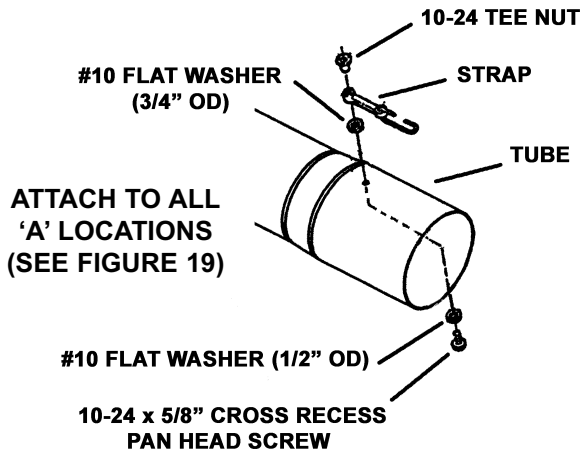
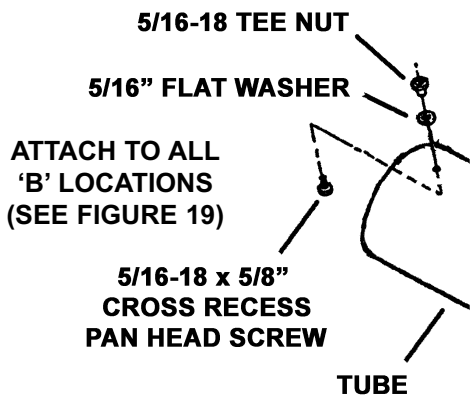
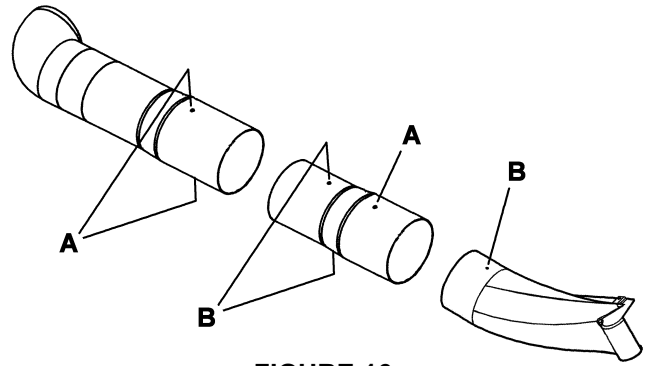

FIGURE 14
FIGURE 15
FIGURE 16
a. Install one strap assembly to each of the locations marked 'A' in Figure 16. Insert one #10-24 x 5/8" pan head screw, fitted with one #10 x 1/2" OD flat washer, out through the hole in the tube or adapter. Secure with one #10 x 3/4" OD flat washer, strap, and #10-24 tee nut, tightening securely. See Figure 14.
b. Install one tee nut assembly to each of the locations marked 'B' in Figure 16. Insert one 5/16 x 5/8" pan head screw out through the hole in the tube or adapter. Secure with one 5/16" flat washer and 5/16-18 tee nut, tightening securely. See Figure 15.